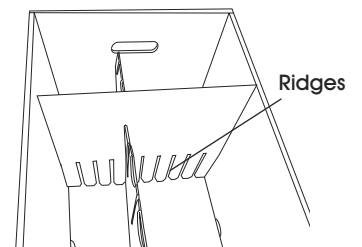

Figure 27
4. Insert short divider into the box as needed, ridges facing downward and align with the ridge from the long divider. (See Figure 27)